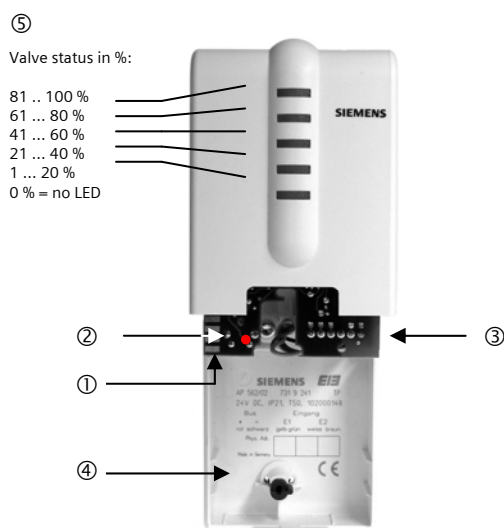

figure 1: Location of the Display and Operating Elements
The valve position is displayed by the 5 LEDs at the front side of the device. Depending on which LED is on, the valve is opened like shown at figure 1.
- Press the learning button (1, figure 1) on the device to initiate the assignment of the physical address to the device.
- The programming LED (2, figure 1) turns on to indicate the programming mode. Upon receiving the physical address the device automatically returns to normal operating mode and the LED turns off.